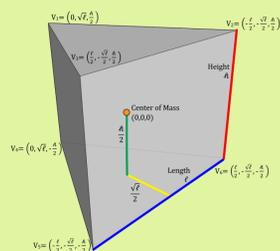

Figure 2: Triangular Prism with center of mass at the origin
- We used graphical software Sketchup to construct 3D images of the dice, which we printed with a MakerBot 3D printer. To obtain uniform density we adjusted the floor setting to be higher than the object height. These technologies allow us to customize different sizes of triangular prisms. One example is shown in Fig.2.